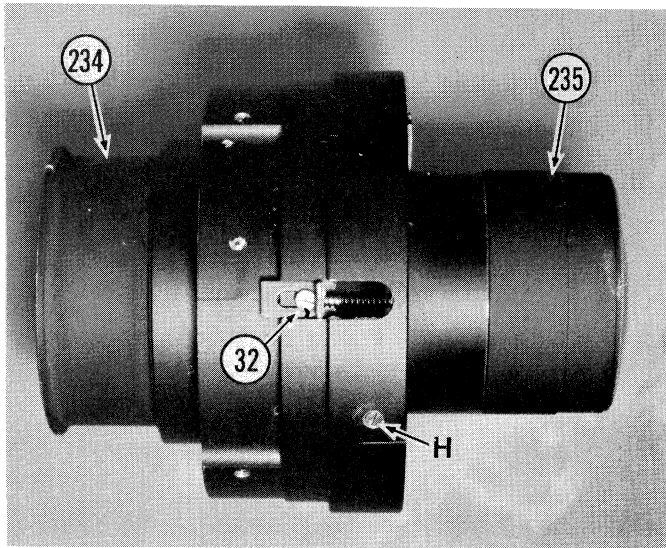
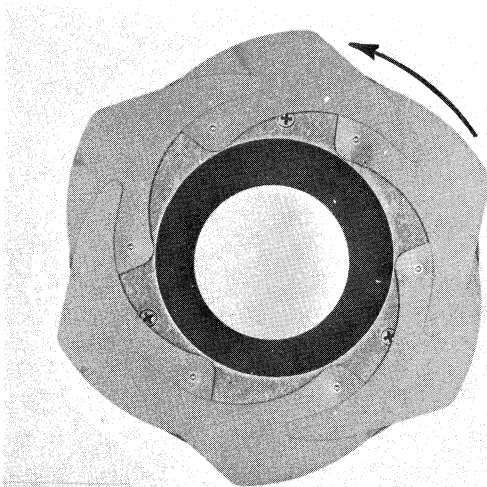

Fig. 24
Fig. 26
Note: Most repairs to Prime Lens Assembly involve no more than cleaning sticky diaphragm blades or blade operating mechanisms. This may be accomplished by simply unscrewing and removing the 4th and 5th Lens Groups (234 and 235) and then cleaning barrel assembly as a unit. An ultrasonic cleaner is recommended. (Fig. 24)
- 4.1.5 Rest the assembly on bench with Diaphragm Housing down. Loosen two screws (32) (Fig. 24) two turns each. Lift Prime Lens Barrel upwards and off. This will expose Diaphragm Blades (ref. no. 36 or 37, depending on mount type). (Fig. 26)
4.2.1 Install Diaphragm Blades in a counterclockwise sequence. (Fig. 26)